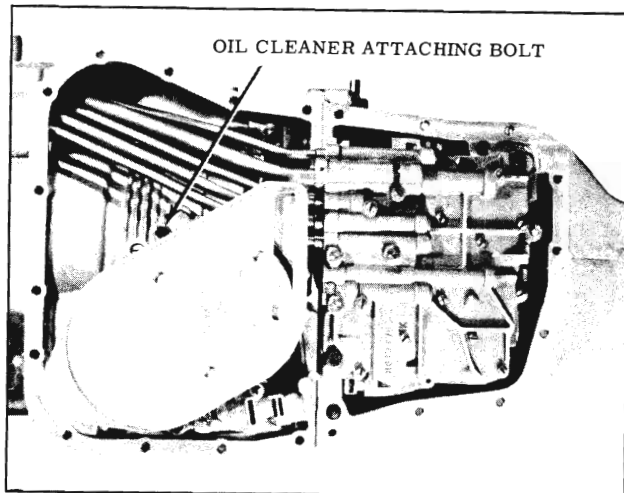

Fig. 3-20 Oil Cleaner
4. Remove oil cleaner attaching bolt and oil cleaner. (Fig. 3-20)